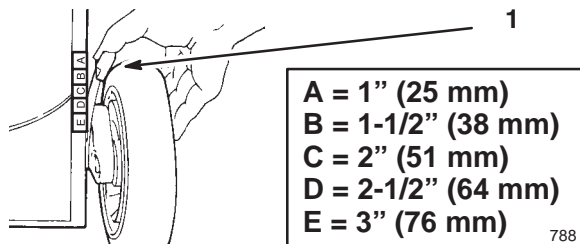

Figure 9
- To change the cutting height, pull the adjusting lever toward the wheel and move it to the desired position (Fig. 9).